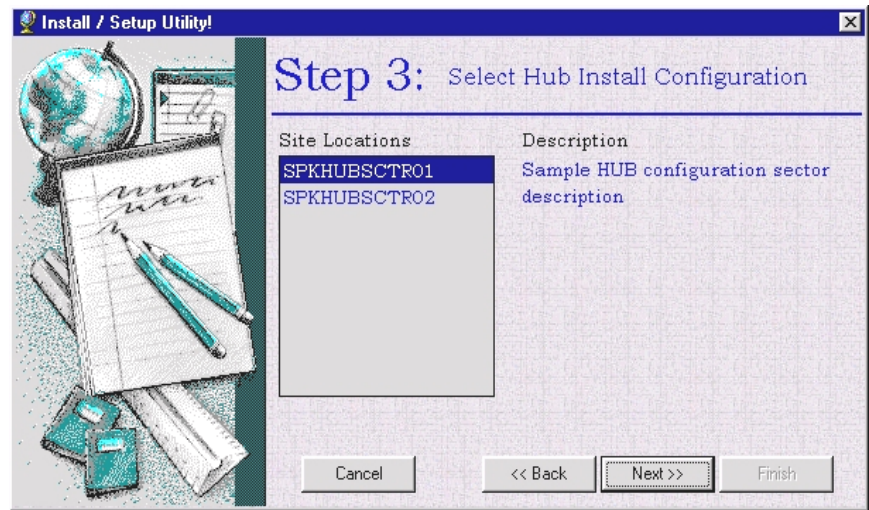

Fig. 5.18
Step 3 requires the correct identifier to be selected for the headend unit transceiver to be installed (see fig. 5.18). It is also necessary to perform this step when installing a subscriber transceiver so that the subscriber can identify which headend transceiver it is communicating with. The items in the list box identify the Hub unit hardware configurations that have been entered by the system manager, and the descriptions to the right are for each sector, or location, as entered by the system manager. When installing a subscriber unit, the information selected will be used to set initial gain settings in the subscriber unit. The information listed under the different site locations will be described in more detail under *Manage Install Database option*, see sec. 5.9.11.